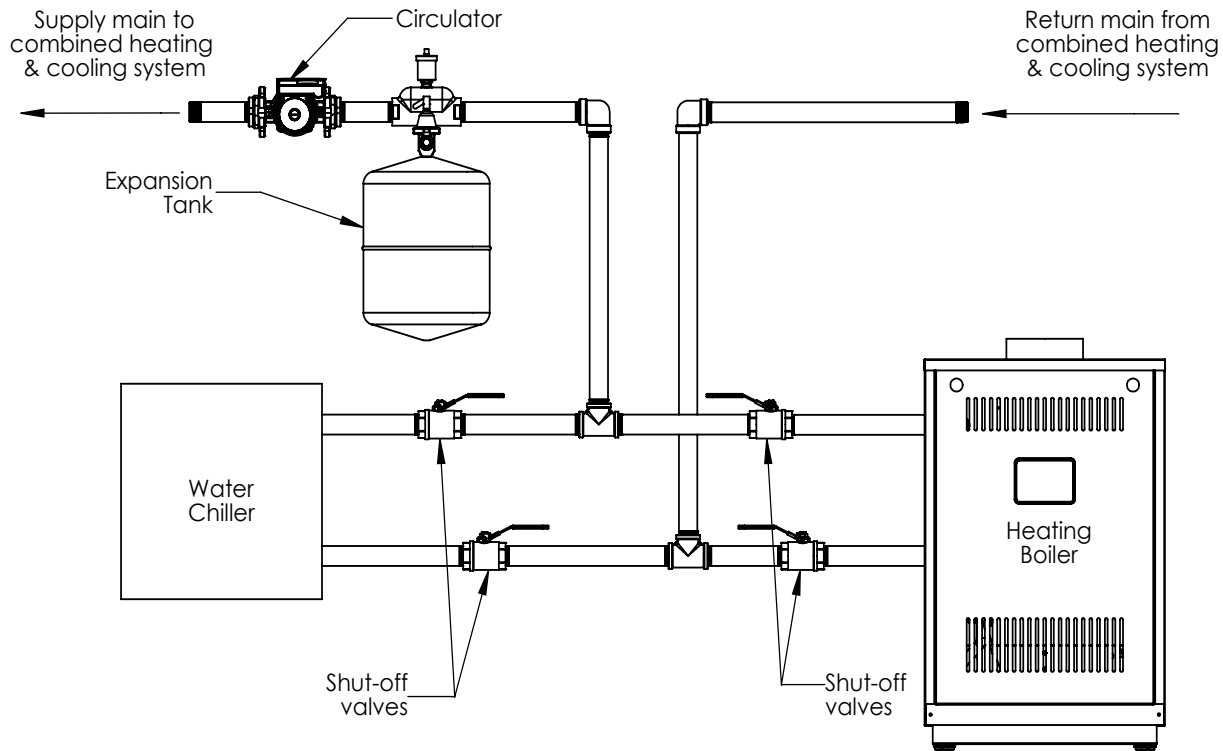

Figure A-1: Isolated Boiler from Refrigeration System
A. If boiler is used in connection with refrigeration systems, boiler must be installed with chilled medium piped in parallel with the heating boiler using appropriate valves to prevent chilled medium from entering boiler. See Figure A-1. Also consult Residential Hydronic Heating Installation and Design I=B=R Guide.